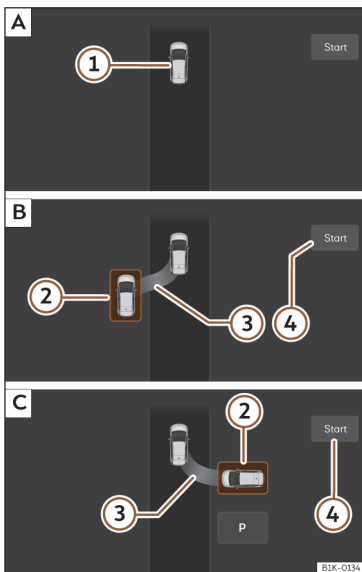

Fig. 129 On the Infotainment system screen. **A**: Finding a parking space **B**: Parallel parking position. **C**: Perpendicular parking position.
- Look at the display on the infotainment system's screen to see if the space has been detected as "appropriate" and if the correct position for parking has been reached >>> Fig. 129 **B** or **C**. Stop the vehicle and follow the instructions shown on the infotainment screen.
- Stop the vehicle, press the brake and, after a short pause, press the **Start** ④ button in the infotainment system.